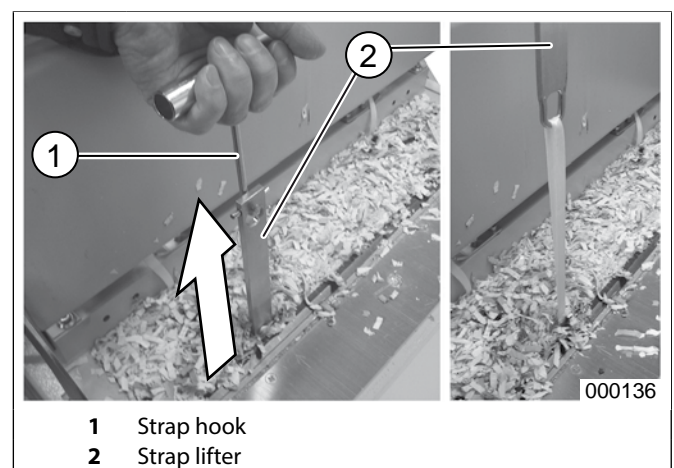

fig. 16 Strap lifters
3. Pull the straps to approximately 40 cm above the baling ram with the help of the strap lifters (fig. 16/2) and the included strap hook.